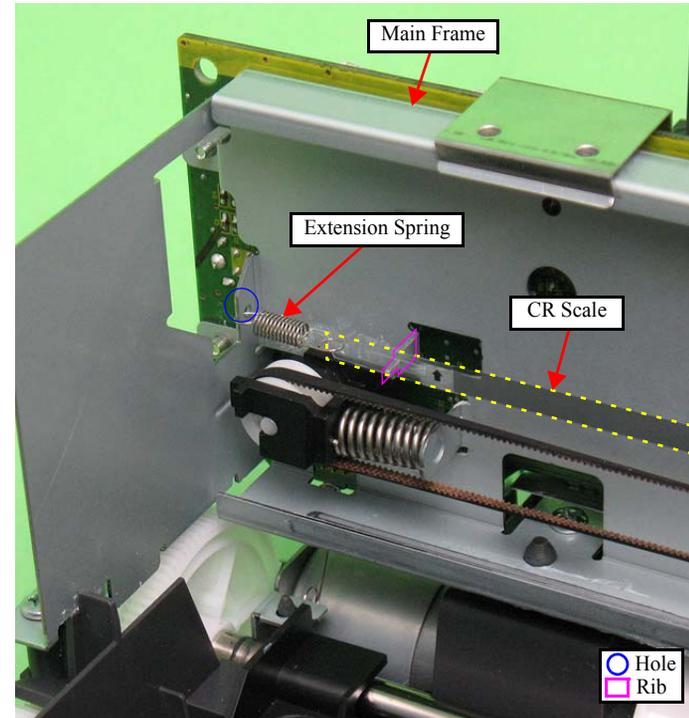

Figure 4-37. Removing the CR Scale (2)
- Make sure to confirm that the Extension Spring is not twisted, then install the eye of the spring to the hole of the Main Frame. (See Fig.4-37.)